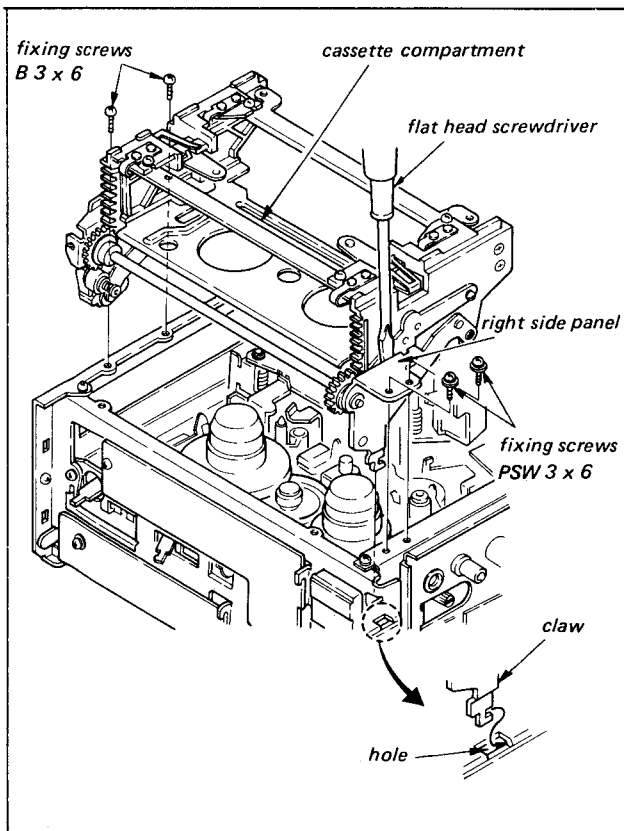

Fig. 2-2. Removal and attachment of cassette compartment
- (v) Tighten the two screws while adjusting the clearance with a flat head screwdriver so that the cassette compartment does not touch the right side plate as shown in Fig. 2-2.